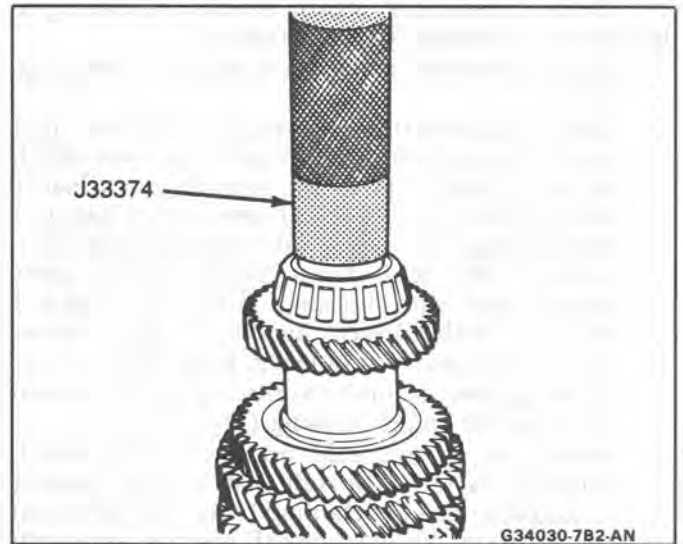

Fig. 31 Rear Bearing Output Shaft
4. Apply oil to the 3rd/4th gear interior, match the key with the key groove and fit the key together with the rear bearing. Using J 33374 and a press, press bearing on shaft (Fig. 31).